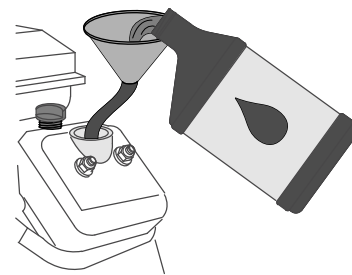

Figure 75
2. Slowly pour 1.6 L (56 fl oz) of the specified oil into the filler neck (Figure 75) of the engine; refer to Engine Oil Specification (page 55).